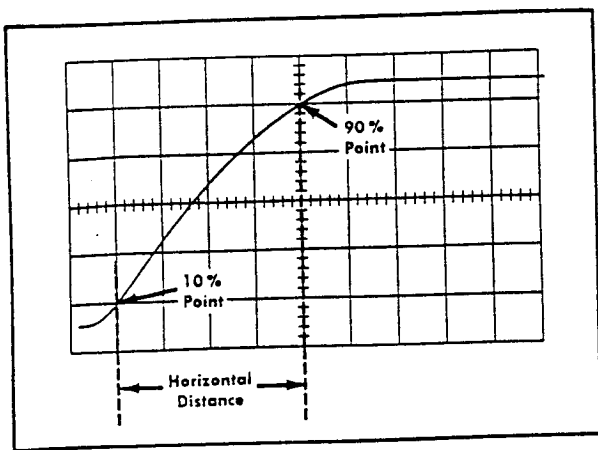

Fig. 2-17. Measuring risetime.
7. Adjust the Horizontal POSITION control to move the 10% point of the waveform to the first graticule line. For example, with a 4-division display as shown in Fig. 2-17, the 10% point would be 0.4 division up from the start of the rising portion.
**Example.** Assume that the horizontal distance between the 10% and 90% points is 4 divisions (see Fig. 2-17) and the TIME/DIV switch is set to 1  $\mu$ SEC with the MAG switch set to  $\times 10$ .